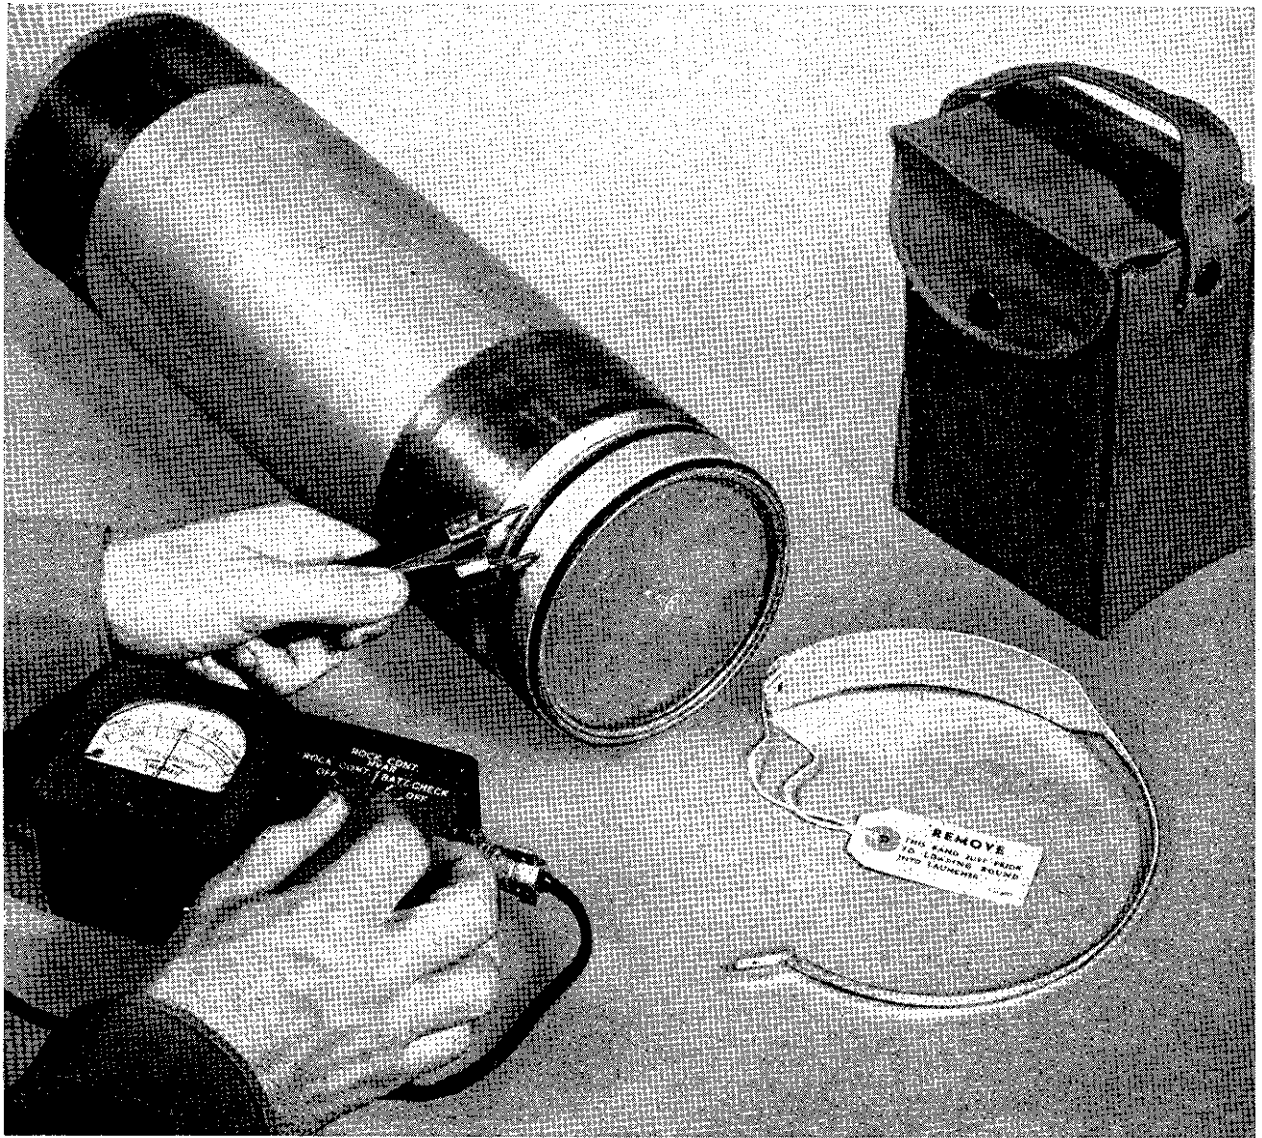

Figure 14.—Testing of 5.0-in. Rocket Motor With Circuit Continuity Tester Model 680-A.
4. Touch one prod of the test leads to the insulated contact ring of the motor and at the same time touch the other prod to the nozzle plate ring in the manner shown in figure 14. If the pointer rests within the space marked OK the motor is satisfactory for use. Do not use the motor if the pointer rests within the LOW or HIGH sections of the scale.